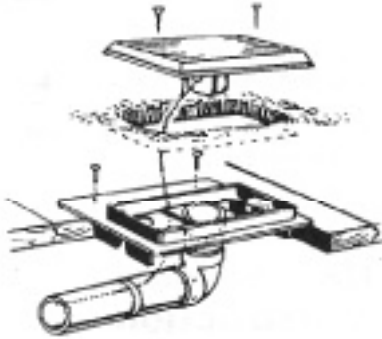

Figure 19
Cut hole (2-1/4"x4-1/2") into floor at desired location and screw mounting plate on top under carpet. Use a coupling and a one (1) inch piece of tube (shown as dotted line **Figure 19**) between mounting plate and the short 90° elbow, connected to the tube.